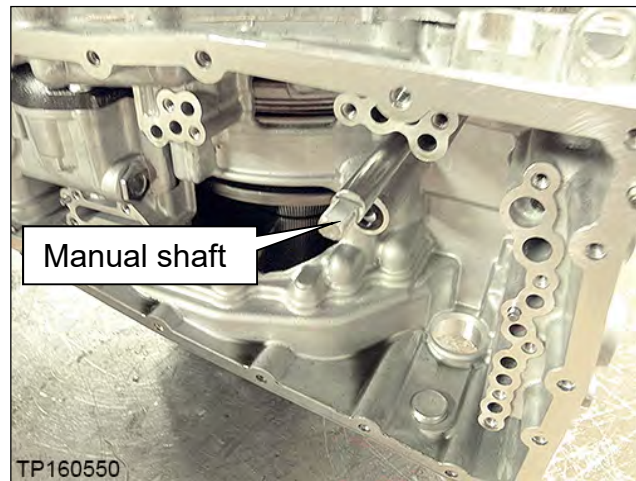

Figure 65
- Do not hit the manual shaft (Figure 65) while flipping the CVT; the manual shaft is longer than the oil pan mating surface. Use a plastic / wooden block to support as needed.